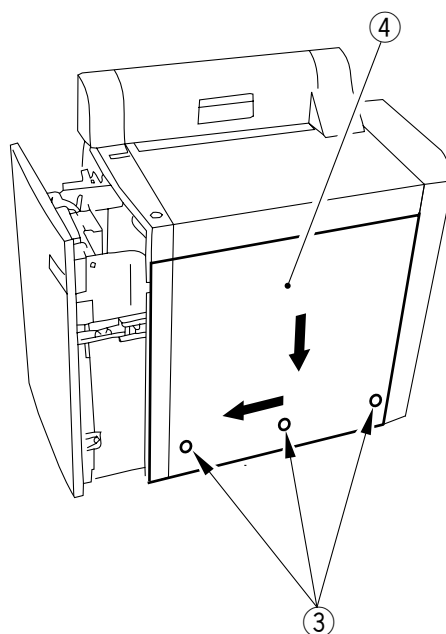

Figure 8-307
- 3) Remove the three screws ③, and shift the right cover ④ in the direction of the arrow (Figure 8-307) to remove.